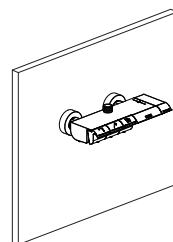

Figure 2
- b) Wrap the teflon tape anticlockwise on the thread of the G1/2 end of the curved connector, connect them to the hot and cold water outlets by a wrench. Leave suitable depth out of the wall and adjust the distance between 2 connectors according to the width of the inlet on the thermostatic shower bar (Figure 2).
- e) Connect the thermostatic shower bar onto the curved connectors (Figure 2). Left side is hot water and right side is cold water.